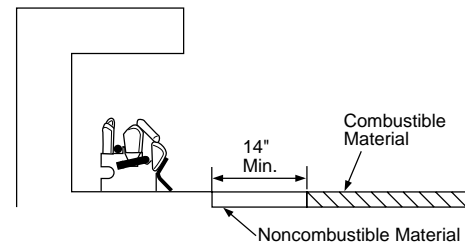

Figure 9 - Minimum Fireplace Clearances If Installed at Floor Level
- A. If installing appliance on the floor level, you must maintain the minimum distance of 14" to combustibles (see Figure 9).